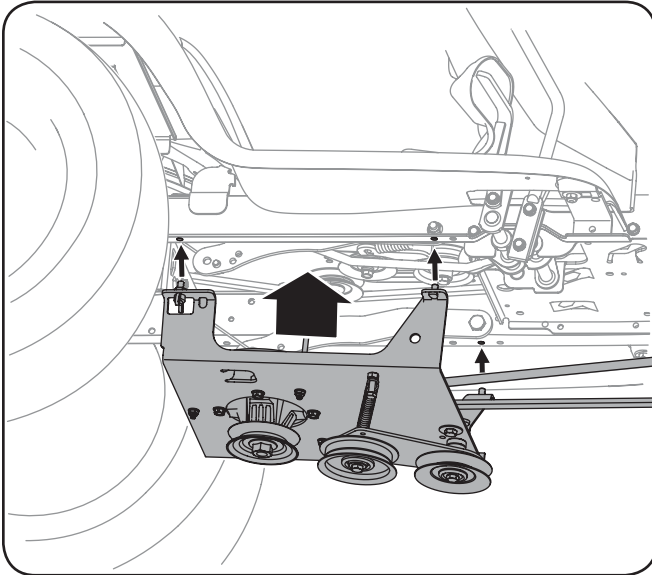

Figure 3-7
3. Place the undercarriage assembly beneath the tractor and lift it up against the frame of the tractor. See Fig. 3-7.